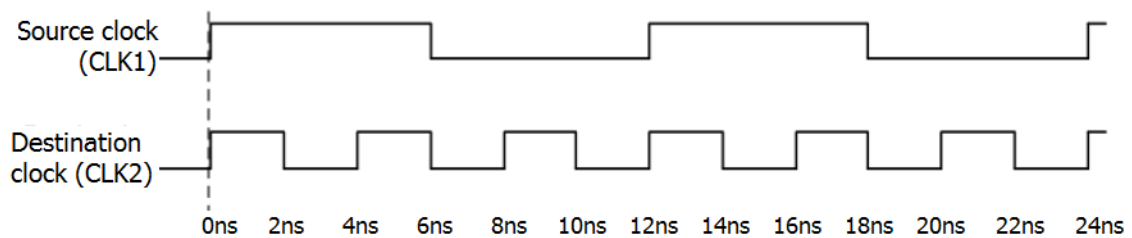

Figure 7-16: Multicycles Between SLOW-to-FAST Clocks
For example, assume that: (1) CLK2 is three times the frequency of CLK1; and (2) a clock enable signal on the receiving registers allows a Multicycle constraint to be set between both clocks. See Figure 7-16, Multicycles Between SLOW-to-FAST Clocks.